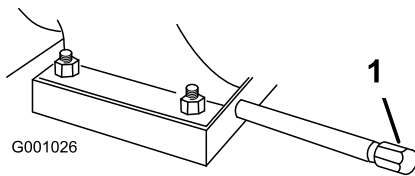

Figure 52
- Clean the area around the oil drain cap (Figure 52).